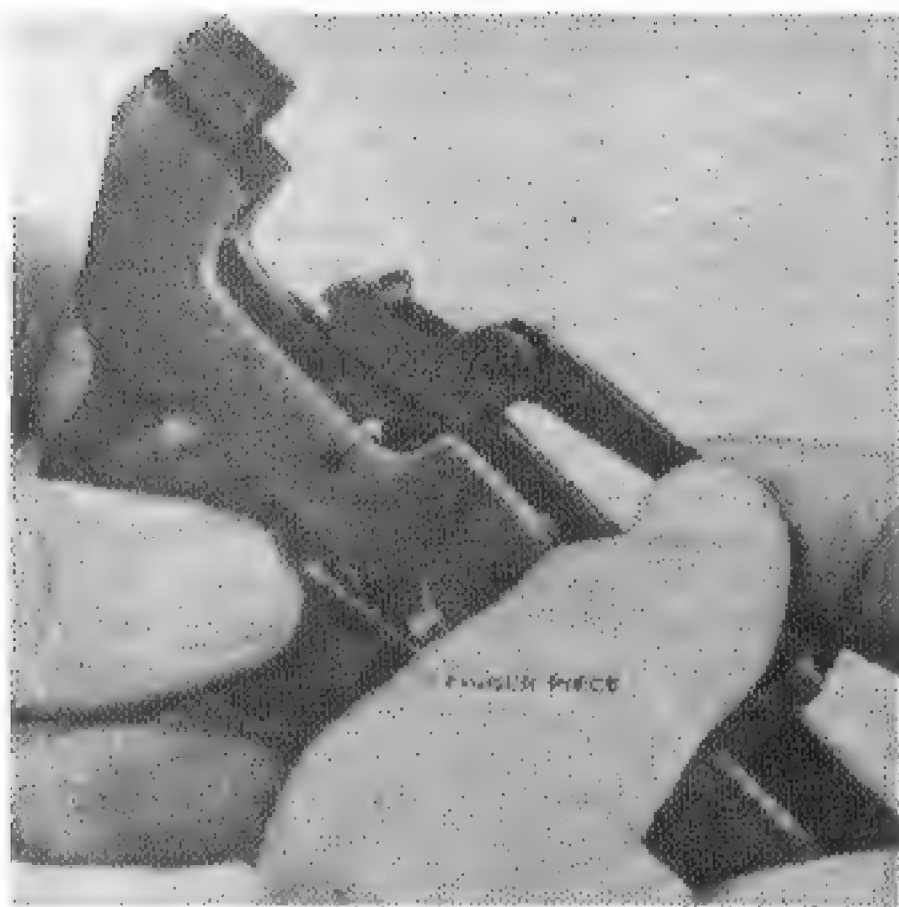

Figure 27. Replacing the trigger.
d. Hold the rear of the trigger housing group in your left hand. Grasp the long forward end of the trigger with the right thumb and forefinger. Hold the trigger level and place it down into the trigger housing group with the fingerpiece projecting part way through the floor of the trigger housing. Grasp the fingerpiece with the thumb and forefinger of the left hand which is holding the trigger housing group (Fig. 27). Position the trigger spring to the rear of the trigger so that the loop end rests in the slot in the rear top face of the